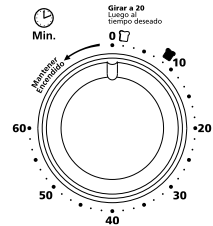

Figure 3
5. **Timer Control Knob with Bell Signal** – Set cooking time up to 60 minutes. Will automatically turn the oven off “O” at the end of the cooking time. (See Figure 3)